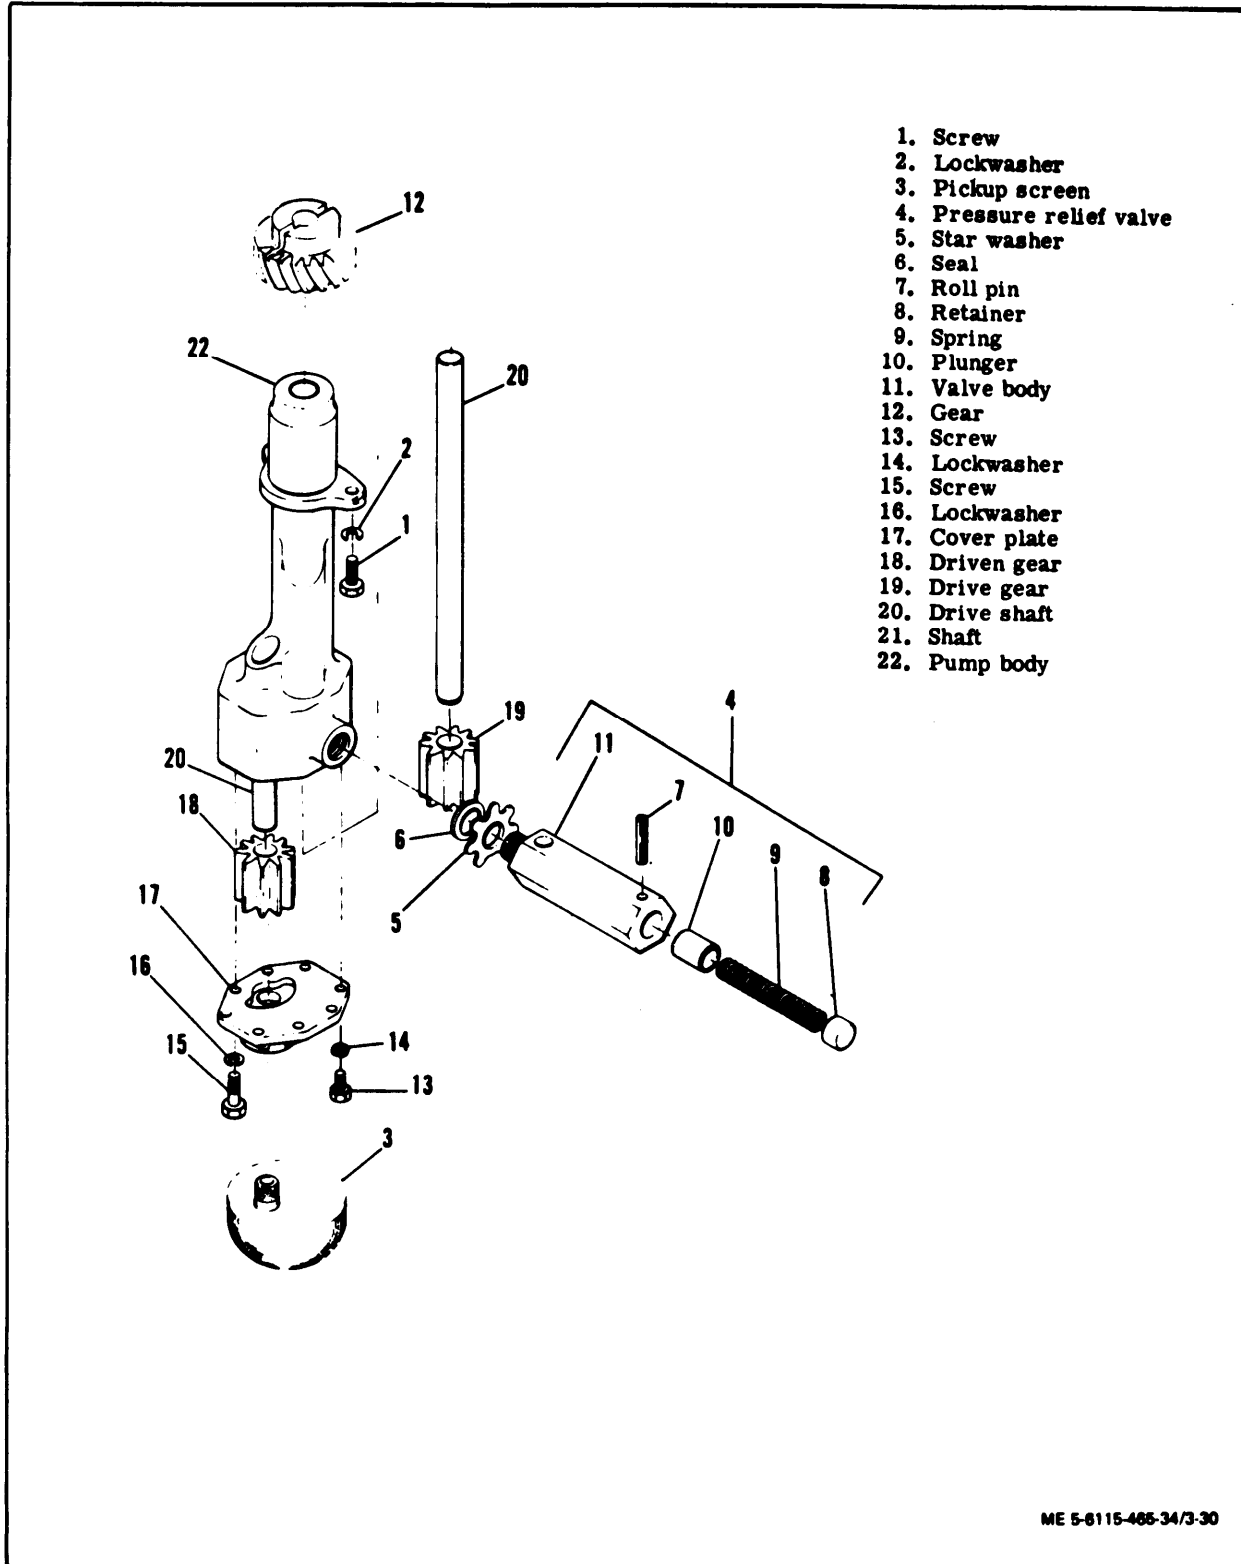

Figure 3-30. Oil Pump Assembly, Exploded View
(1) Remove oil pan assembly (paragraph 3-36).
(2) Remove screws (1, figure 3-30) and lock-washers (2) to remove oil pump.
- (1) Clean all parts in dry cleaning solvent (Federal Specification P-D-680) and dry thoroughly.
- (2) Inspect spring (9, figure 3-30) for cracks, breaks and distortion.
- (3) Inspect plunger (10) and bore of valve body (n) for scores, scratches, and deep wear patterns. Check that plunger moves freely in valve body.
- (4) Check gear (12) for chipped or broken teeth, excessive wear, or other damage.
- (5) Inspect cover plate for cracks and warpage. Check inner face for deep wear marks or scores from contact with gears.
- (6) Inspect gears (18 and 19) for chipped or broken teeth, excessive wear or other damage.
- (7) Inspect shafts (20 and 21) for cracks, scores and deep wear patterns. Check that shaft (20) rotates freely in pump body. Check that gear (18) rotates freely on shaft (21).
- (8) Inspect pump body (22) for cracks, breaks, and other damage. Check gear bores for rub marks from contact with pumping gears.
- (9) Check all threads for crossing, stripping or peening.
- (10) Inspect screen (3) for rips, tears, breaks and clogging.
- (11) Repair minor thread damage with a thread chaser.
- (12) Remove minor nicks and burrs with crocus cloth and oil. Clean the part in dry cleaning solvent and dry thoroughly with filtered compressed air.
- (1) Press drive gear (19, figure 3-30) onto shaft (20).
(3) Press shaft (21, figure 3-30) into pump body and install driven gear (18).
(4) Install cover plate (17) and secure with lockwashers (16 and 14) and screws (15 and 13).
(5) Insert plunger (10) into valve body (11). Install spring (9) and retainer (8) and secure with roll pin (7).
(6) Install new seal (6), lockwasher (5) and pressure relief valve (4).
(7) Check that drive shaft rotates freely. If shaft binds, disassemble pump and ascertain cause before installing.
(8) Install pickup screen (3) and tighten.